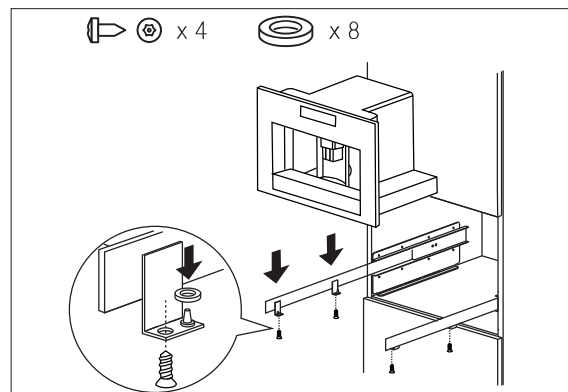

Fig. 5
- Position the appliance on the rails, making sure the pins are correctly inserted in the housings, then fix it with the screws supplied (Fig. 5). If the height of the appliance requires adjusting, use the spacer disks provided.